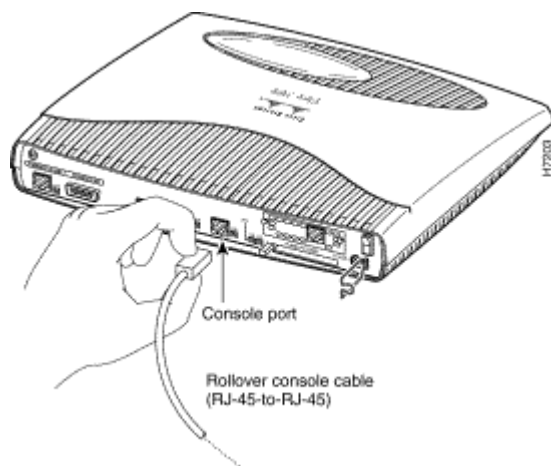

Figure 5
Step 1 Connect one end of the light-blue console cable to the light-blue CONSOLE port of the router (Figure 5).